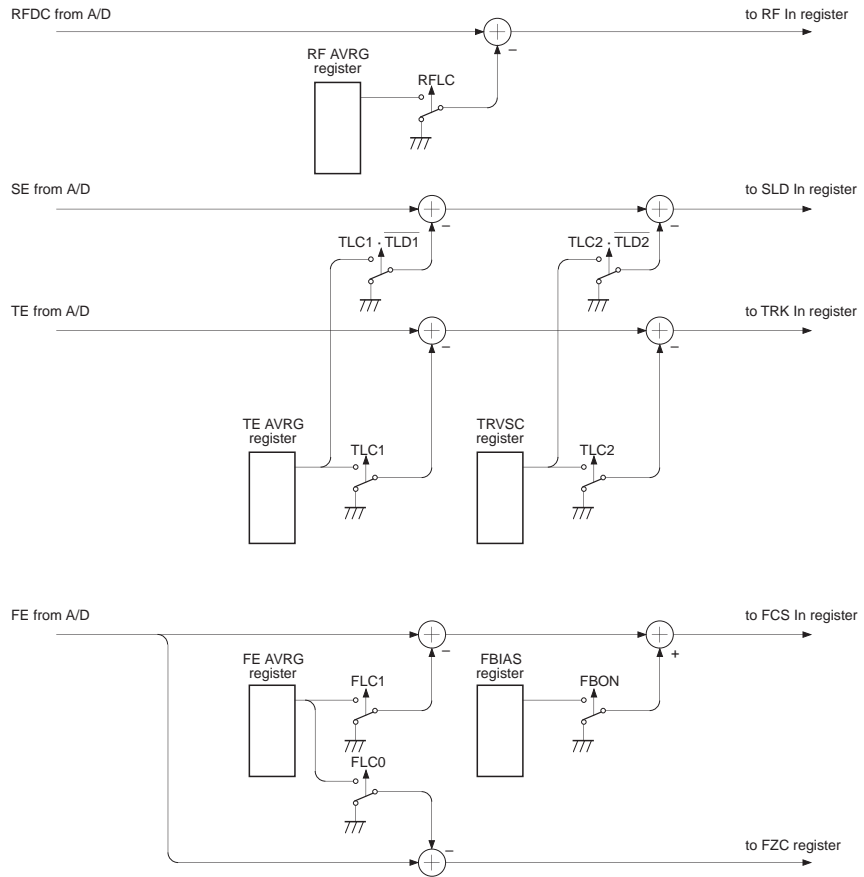

Fig. 5-3a.
Two methods of canceling the DC offset are assumed for the CXD3048R. These methods are shown in Figs. 5-3a and 5-3b.
- \$38 14 0A (Compensation on [RFLC, FLC0, FLC1, TLC1]; corresponds to Fig. 5-3a.)